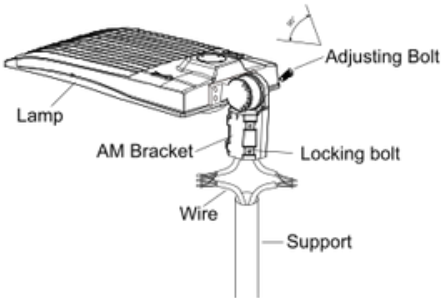

Figure 1
1.ADJUSTABLE FITTER MOUNTING (AM)
Step 1:Loosen the four bolts on AM bracket, connect the wires correctly, and pull the wires into the poles.(Figure 1)
Notice: Adjustable angle is 0-90°(Figure 1)